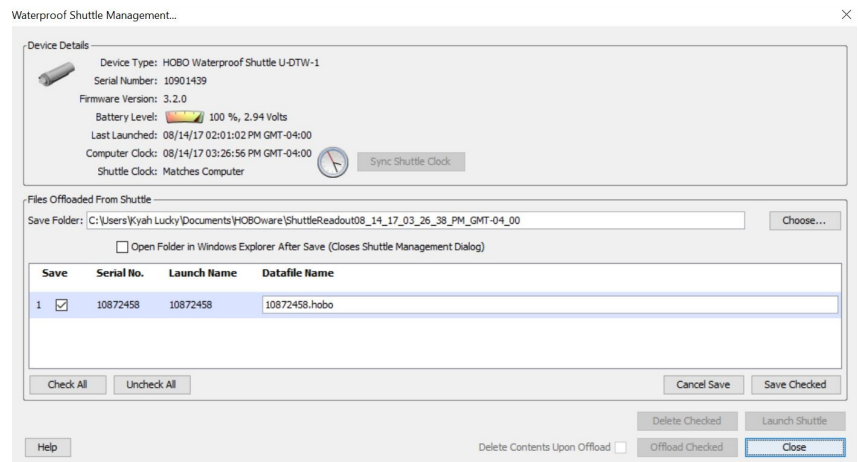

Figure 44. Saving the data file
4. Now that the data file has been saved to your computer, you need to launch the shuttle before you can unplug it. To do this, click *Launch Shuttle* in the bottom right corner of the window (Fig. 44) .